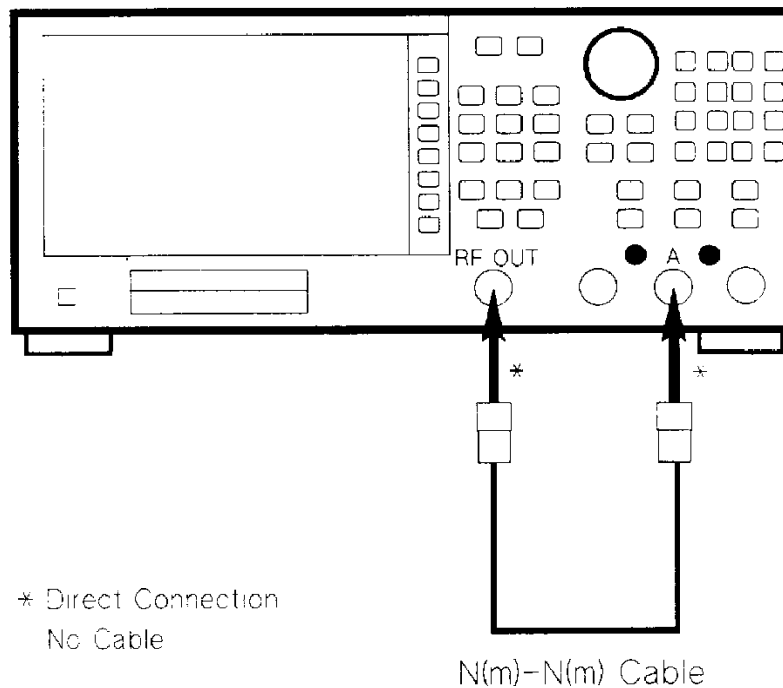

Figure 2-1 Input-A 2nd IF Mixer Tracking Adjustment Setup
This version corrects Figure 2-1.
- Connect the N(m)-N(m) Cable as shown in Figure 2-1.